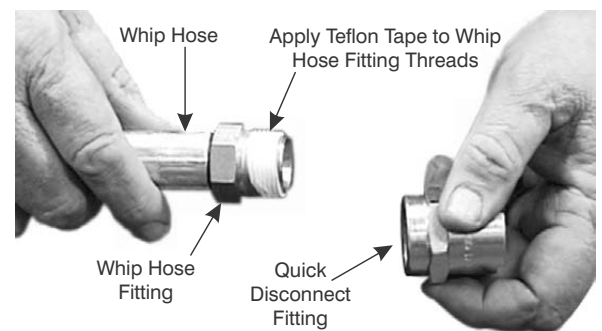

Figure 9-31. Apply Teflon Tape to Hose Fitting.
11. At the free end of the Whip Hose, wrap the external threads of the hose fitting with tape as shown in Figure 9-31.